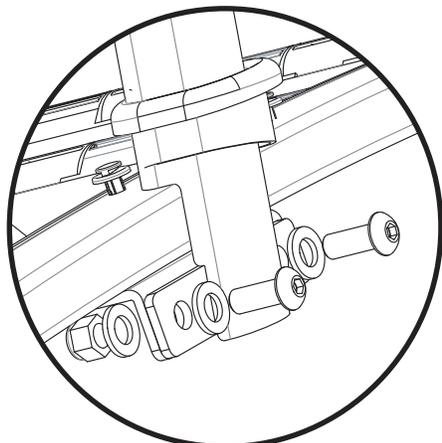

Figure 3B
- 3-2 Slide item #33(Rubber Sleeves Handrail) below the bolt holes on item #31(Lower Handrails). (figure 3B) (Note: there is a left and a right handrail)
- 3-3 Attach item #31(Lower Handrails) to mounting frame brackets using hardware items #2, #11, and 7. (figure 3B).